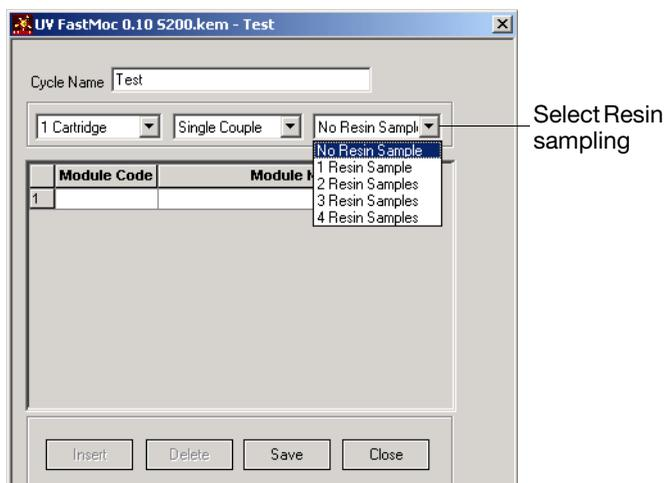

Figure 7-18 Selecting Resin Samples
5. Click the **Resin** samples drop-down list box, then make the appropriate selection, for example, No Resin Samples (Figure 7-18).